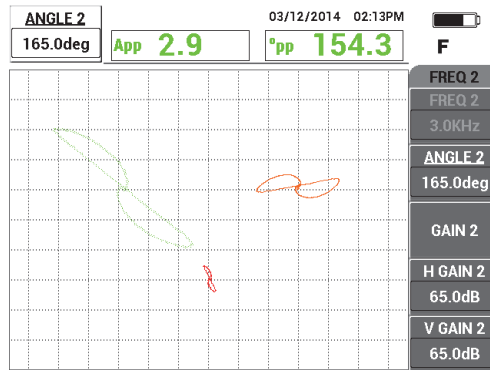

Figure 5-140 Adjusting the frequency 2 angle
5. Press the ANGLE key () twice, and then adjust the angle of the frequency 2 signal (red) until the hole signal is oriented almost vertically (see Figure 5-140 on page 226).